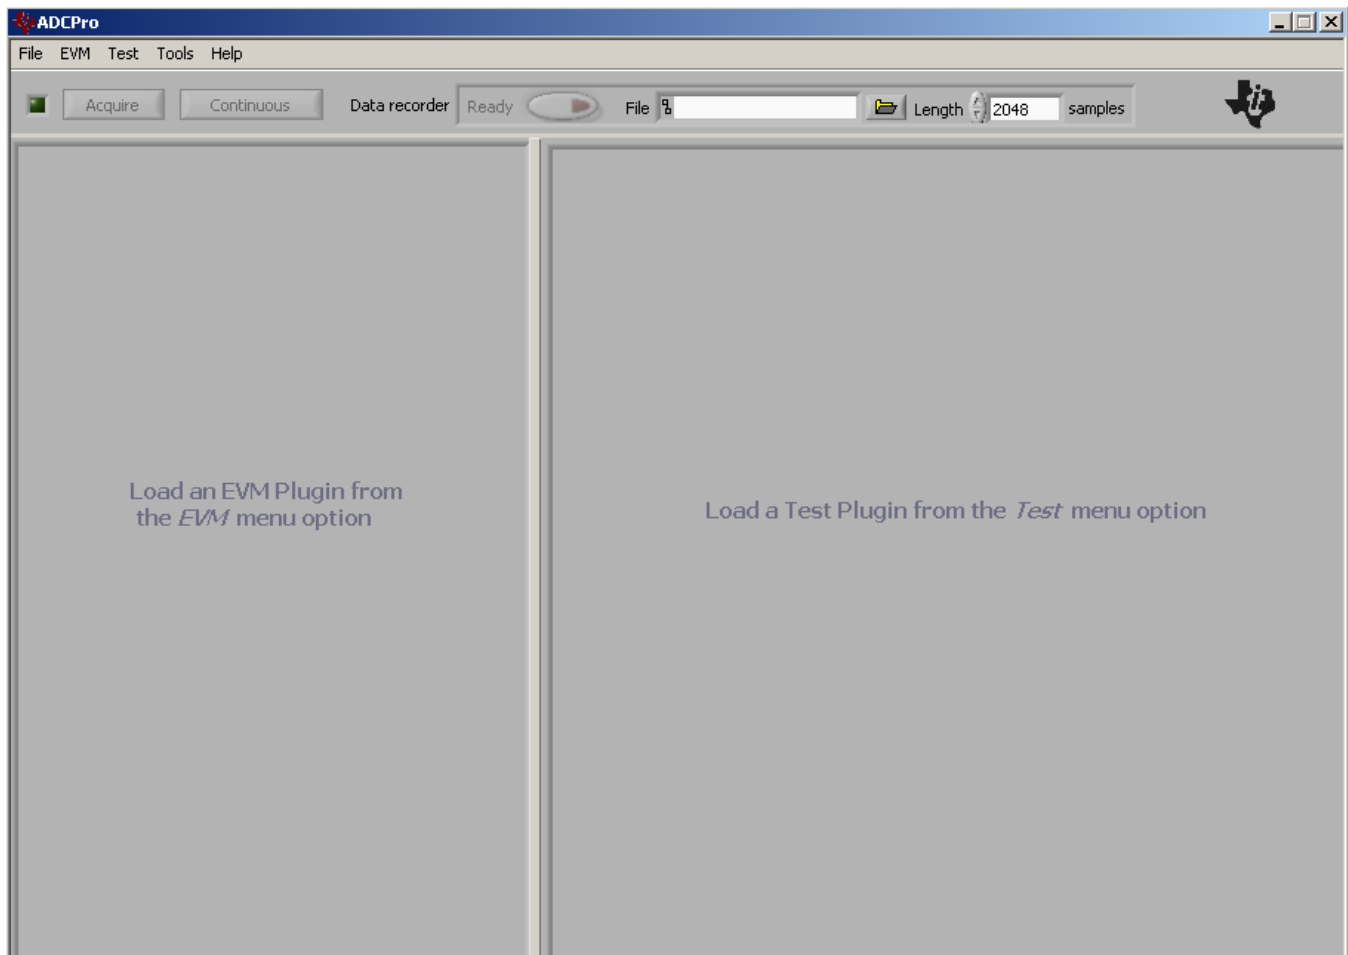

Figure 7. ADCPro Software Start-up Display Window
- Step 1. Start the software by selecting *ADCPro* from the Windows Start menu. The screenshot shown in Figure 7 appears.